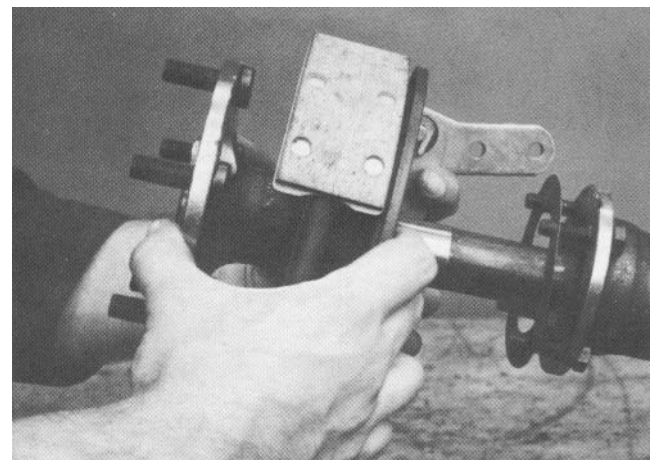

Figure 8
4. Pull the axle shaft and brake assembly out of the axle housing (Fig 8).